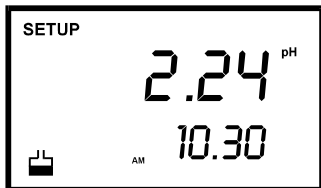

Figure 25 - Time/date appears on pH 310 meter display only
*pH 310 meter only:* Press the ENTER key repeatedly to view previous calibration data. The meter will first display the calibration point, and then display the date and time of calibration. See Figure 25.